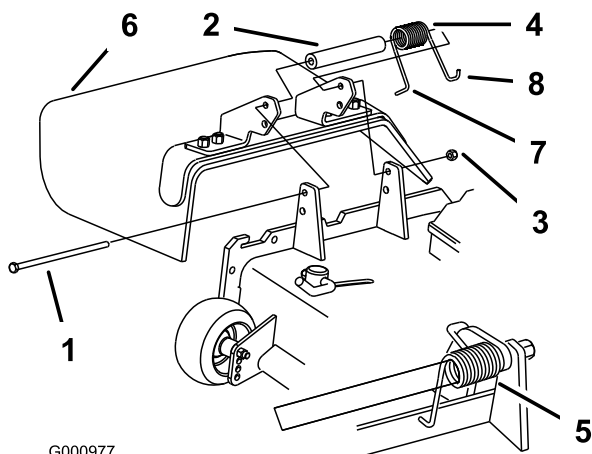

Figure 92
1. Remove the locknut, bolt, spring, and spacer holding the deflector to the pivot brackets (Figure 92). Remove the damaged or worn grass deflector.
Note: Make sure the L end of the spring is installed behind the deck edge before installing the bolt as shown in Figure 92.
3. Install the bolt and nut. Place the J hook end of the spring around the grass deflector (Figure 92).